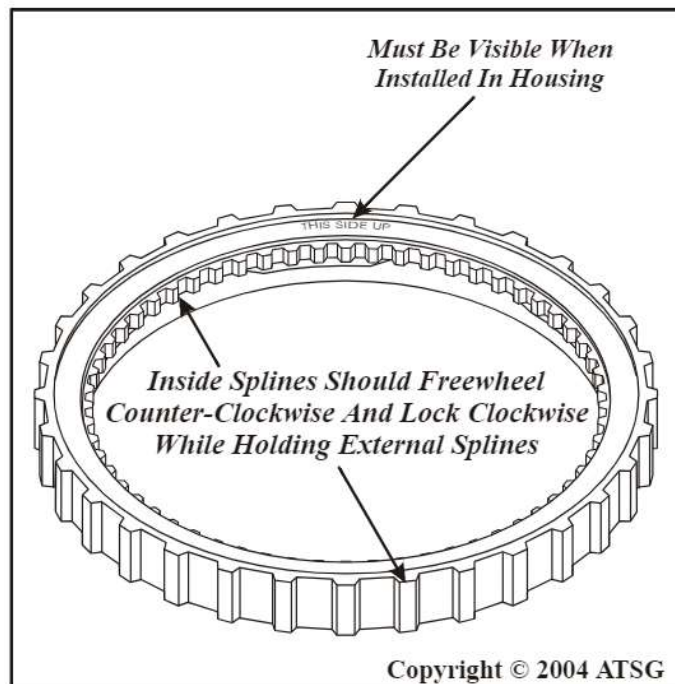

Figure 97
3. Inspect coast clutch pressure plate which now incorporates the mechanical diode one way clutch, as shown in Figure 97.
Note: *Inside splines should freewheel in the direction shown in Figure 97, and lock in the opposite direction.*
- Note: The words "This Side Up" must be visible after installation (See Figure 97).*